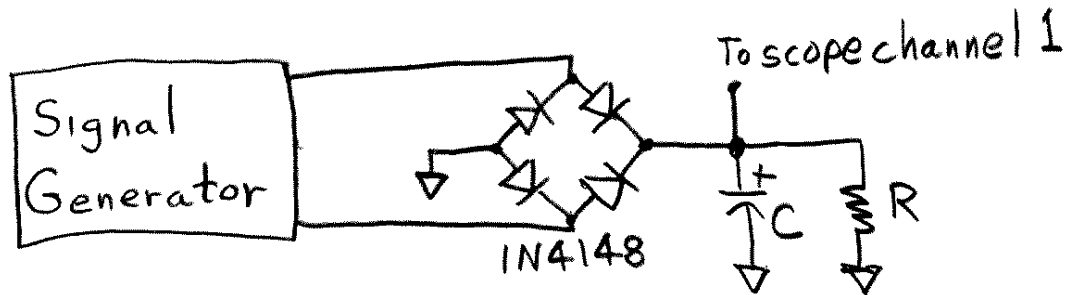

Figure 2: Full-wave Rectifier
- 1.6 Build the full-wave rectifier circuit in Figure 2. Initially use a load resistor of 1 K and no capacitor. Note that the signal generator must be floating. No other connection such as Sync can be made for this part of the experiment to work.